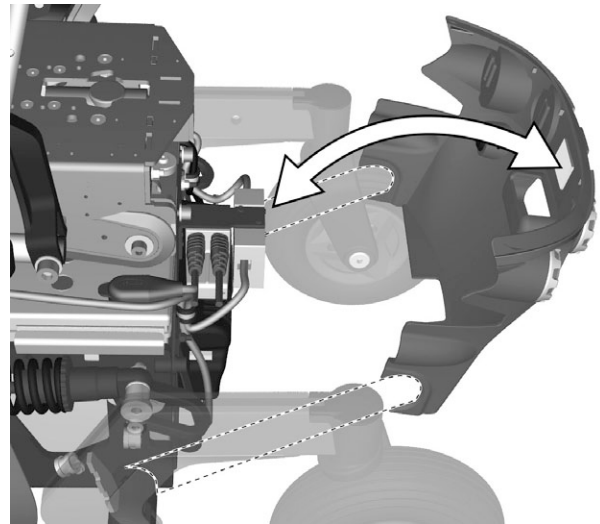

Figure 37. The chassis rear cover.
5. Refit the rear chassis cover on to the chassis. See fig. 37.